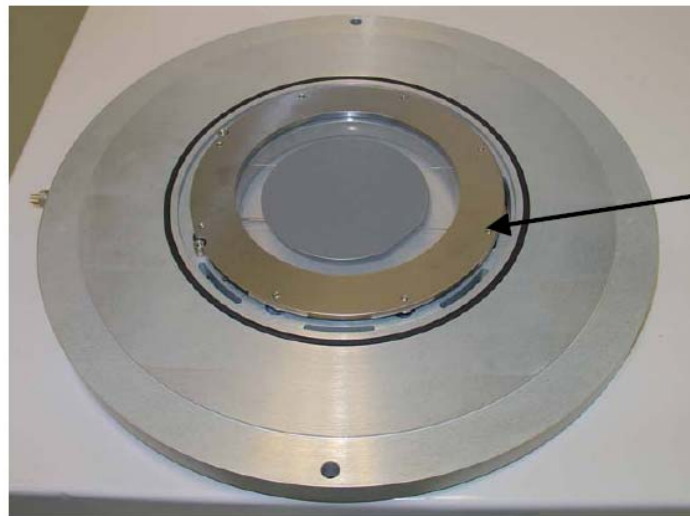
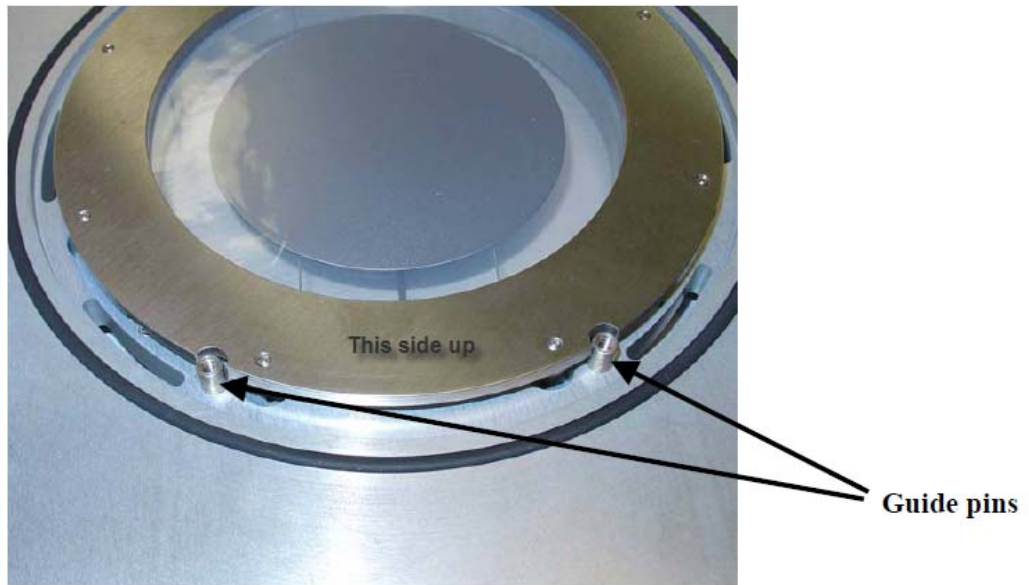

Figure 4-7 A larger diameter thin film is placed on the wafer holder.
Figure 4-8 A larger diameter thin film is placed on the wafer holder.
- i Place the Top Film Ring Holder onto the wafer holder, see figure 4-7. Align the cut out notches on the holder with the guide pins on the wafer chuck, see figure 4-8. The magnet side of the holder faces down, you should be able to read “This side up” (see figure 4-8), if you do not, **STOP**. Change the top film holder to make it correct.